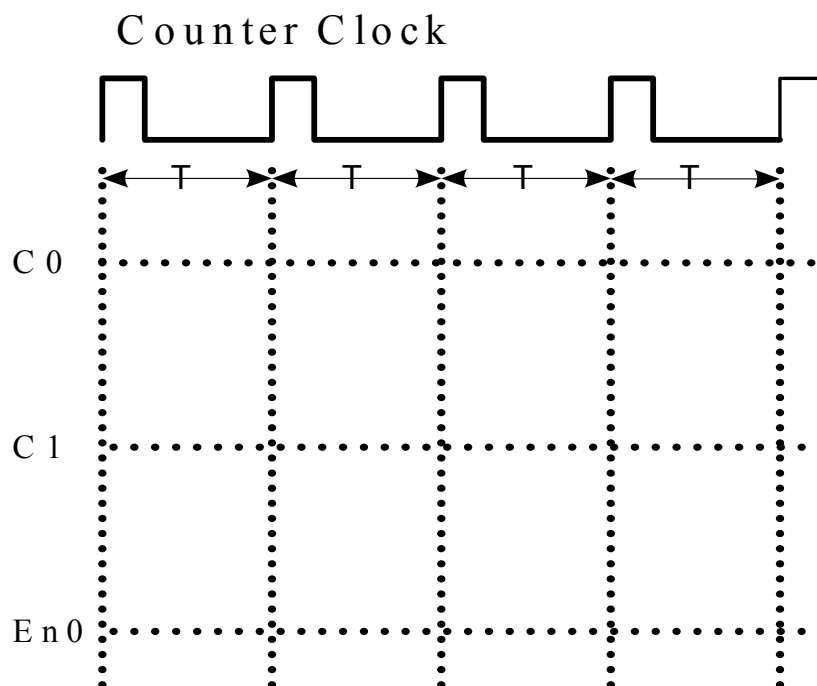

Figure 9.3: Timing Diagram
- If the counter outputs are designated C1C0, you are required to sketch the waveforms of C0, C1, and the En0 signals for 4 clock cycles. Use figure 9.3 for this purpose assuming that C1C0=00 after first clock pulse.
- Assuming the counter input clock to have a period T, from the timing diagram of Figure 9.3 determine the following: